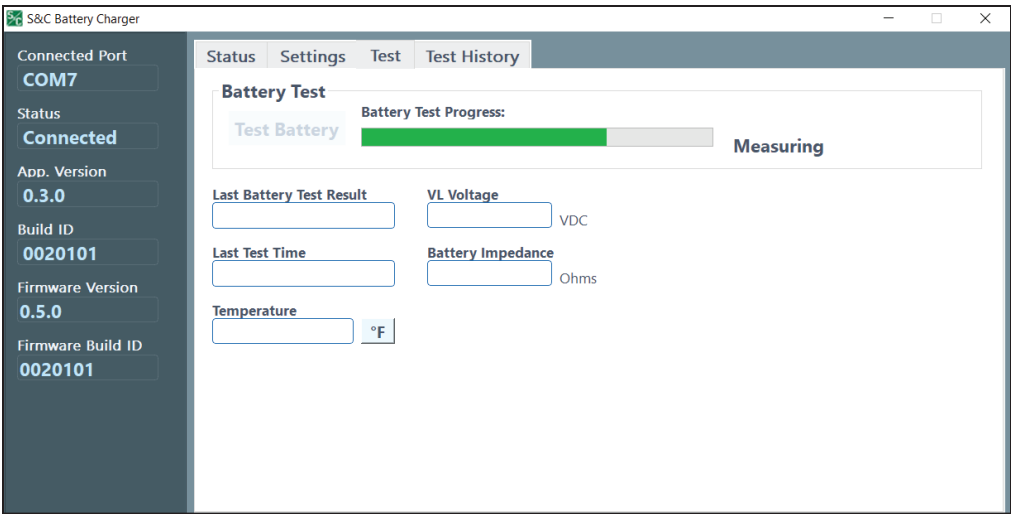
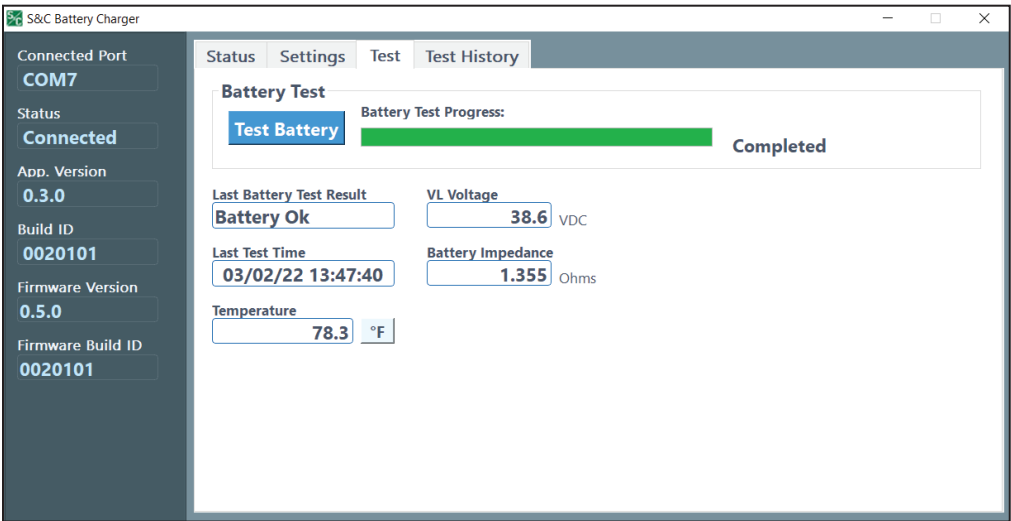

Figure 21. The Battery Test tab during battery test.
Figure 22. The Battery Test tab after a completed battery test.
- STEP 3.** Navigate to the **Test** tab. Click on the **Test Battery** button. The Battery Test Progress bar will show the progress of the battery test. See Figure 21 and Figure 22. If an **Overvoltage** or an **Undervoltage** state is detected, the appropriate indicator light on the front panel will illuminate, as will the status indicators on the **Status** tab. The possible test results are listed in Table 5 on page 25.